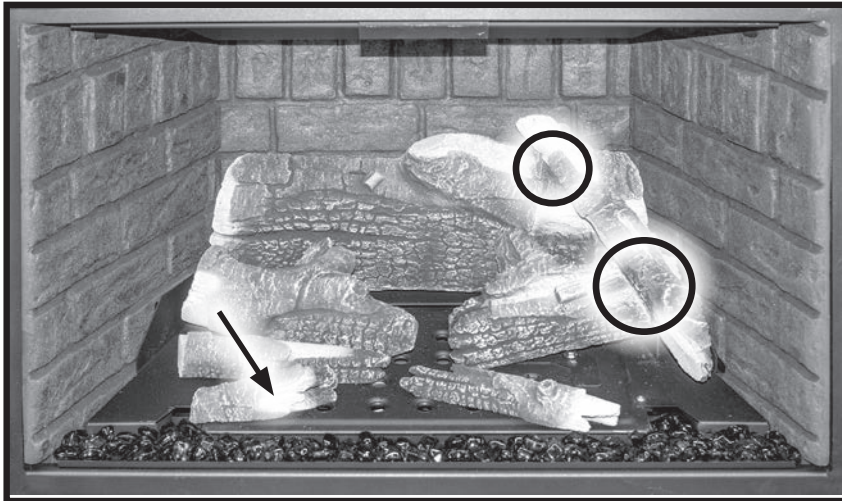

Figure 51. Final Ember Log & First Right Top Log.
5. Install the final ember log, as shown in Figure 51, by locating the drilled holes on the burner pins. Then install the first right top log by sitting the depression on the bottom side onto the half-round on top of the back log. The opposite end of the log sits into the notch on top of the right ember log.